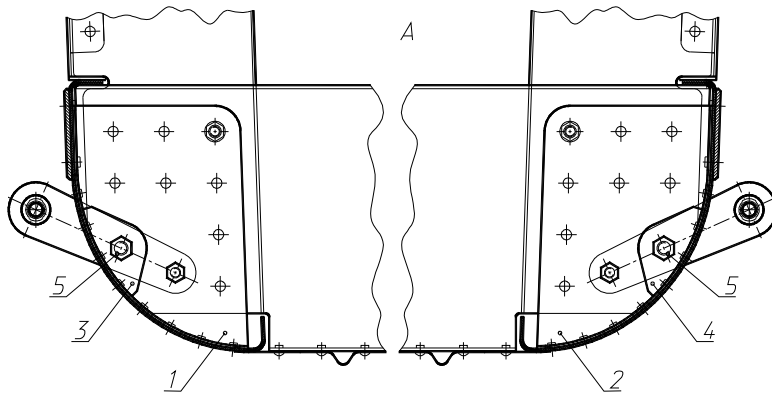

Fig. 2
*The work is carried out according to fig. 2.*
- 1) Remove the bolts (item 5);
- 2) Install the replacement bolts (longer ones) and reinforcing diaphragms (items 3, 4) with primer;